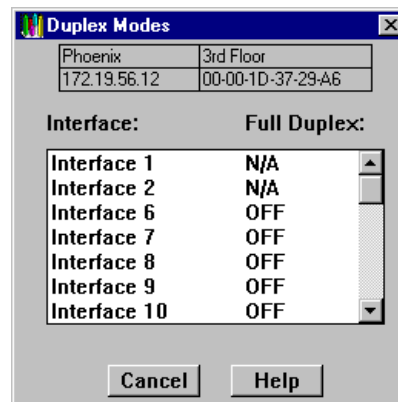

Figure 5-7. The Duplex Modes Window
2. Click to select **Duplex Modes...**, and release. The Duplex Modes Window, Figure 5-7, will appear.